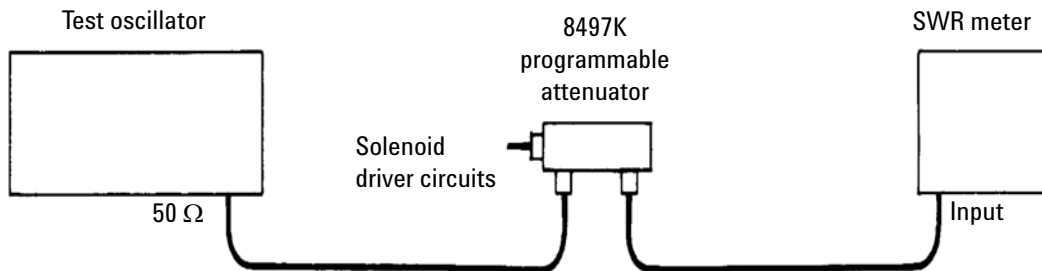

Figure 5 Operator's Check Setup
- 1 Connect equipment as shown in Figure 5 on page 26 with the attenuator set to 0 dB.